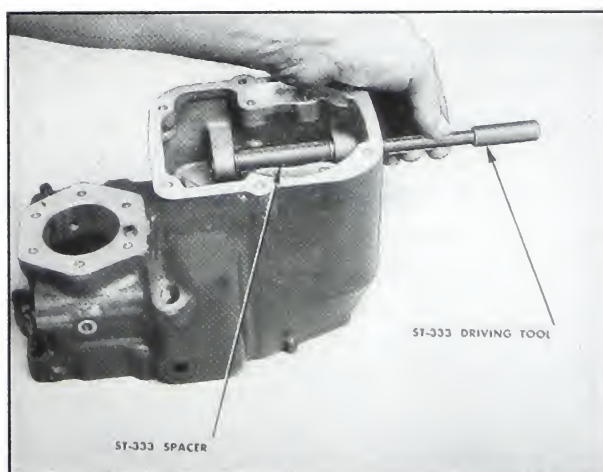

Fig. 5-207. Spacing control shaft bearings
3. Drive outer bearing to its approximate position with ST-333 driver and spacer. Refer to Fig. 5-207.